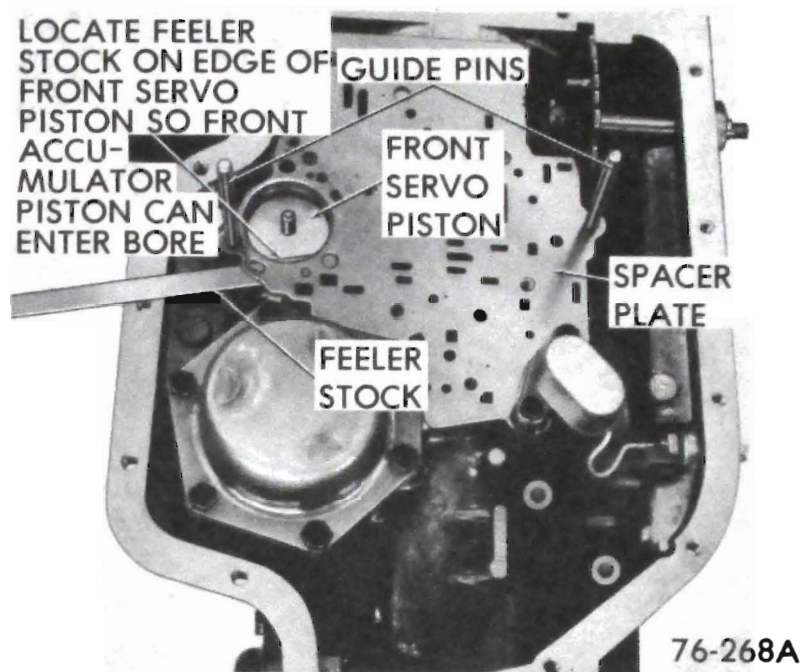
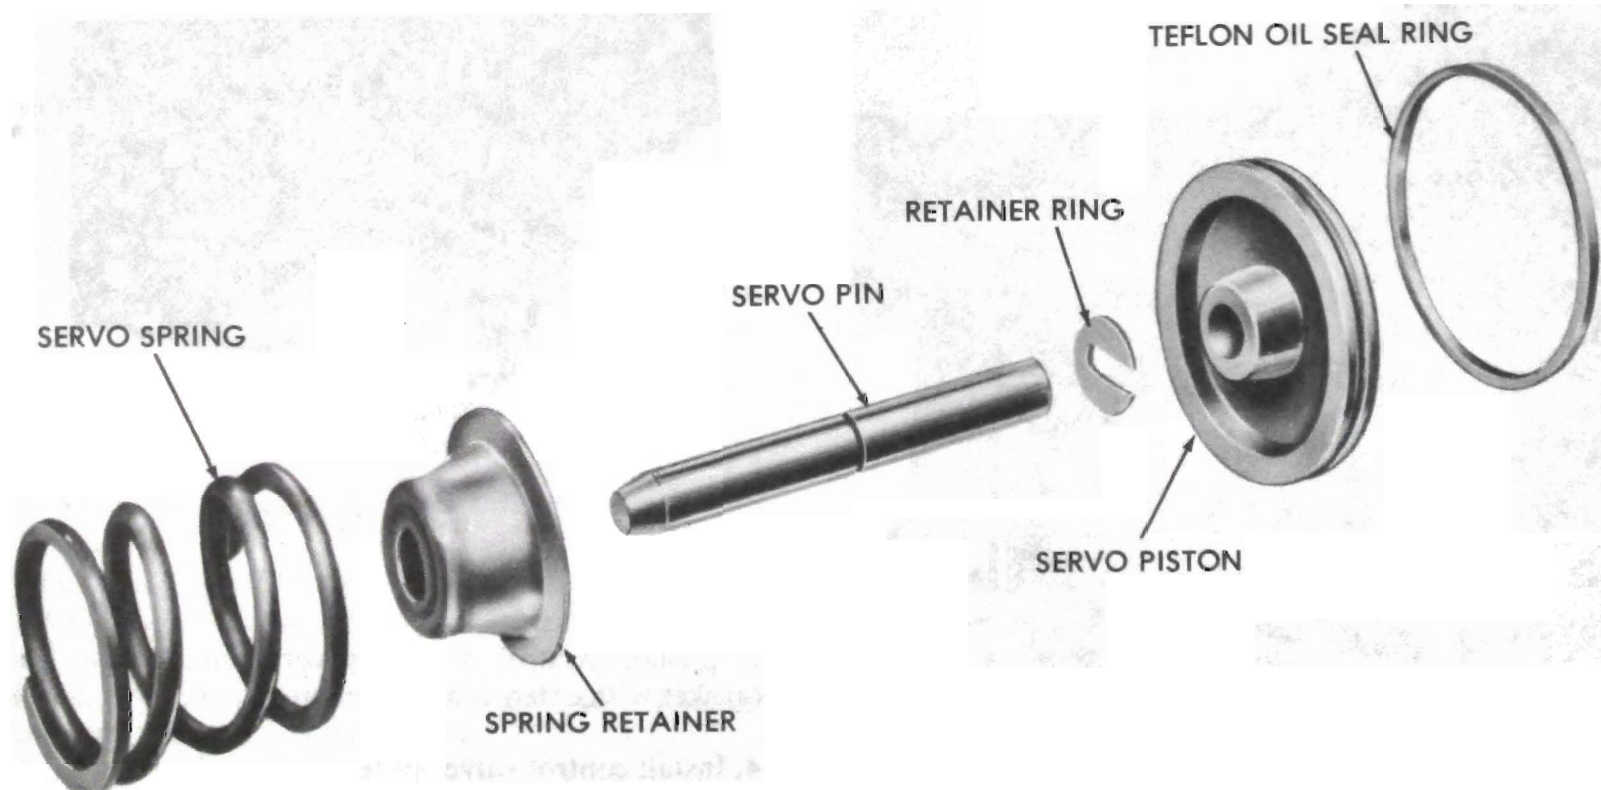

Figure 76-268A
Figure 76-268
7. Install front servo spring and spring retainer into transmission case. See Figure 76-268.
9. Install seal ring on servo piston, if removed, and install on servo pin with flat side of piston positioned toward bottom pan. See Figure 76-268.
If transmission is in car, assemble front servo group, as shown in Figure 76-268, and install this group of parts into front servo bore in case and hold. Slip a length of straight, clean feeler gauge or shim stock (about .020") between spacer plate and front servo piston to temporarily retain front servo group. See Figure 76-268A.